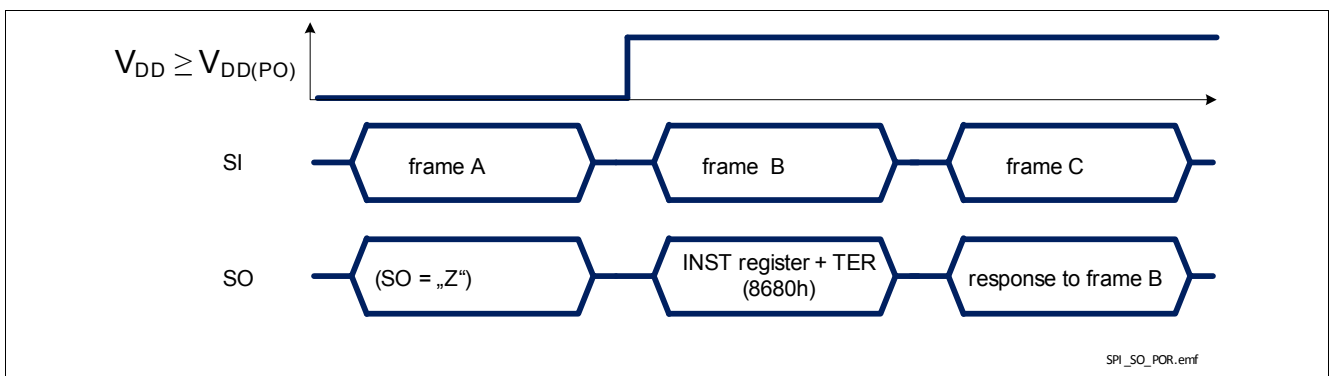

Figure 35 TLE75080-EMH response after coming out of Power-On reset at V_{DD}
- when TLE75080-EMH logic supply comes out of Power-On reset condition or after a Software Reset, as shown in Figure 35